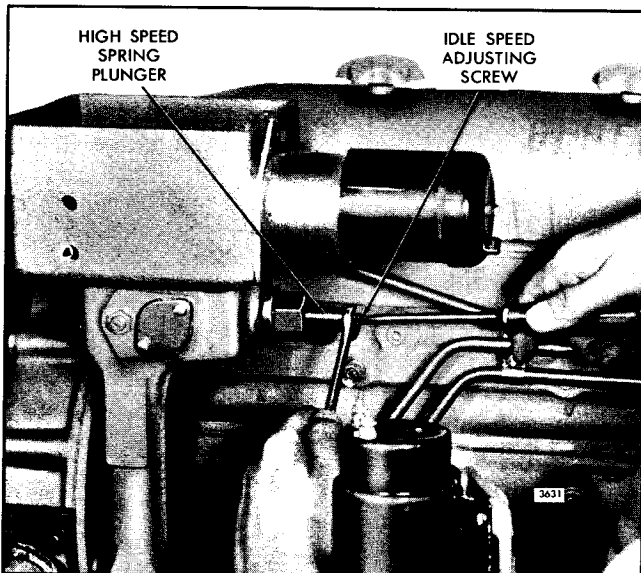

Fig. 5 - Adjusting Engine Idle Speed
1. With the engine at normal operating temperature and with the buffer screw backed out to avoid contact with the differential lever, turn the idle speed adjusting screw (see Fig. 5) until the engine is running at approximately 15 rpm below the specified idle speed.